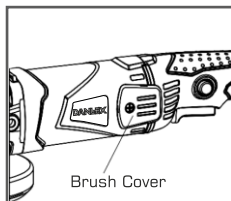

Fig8
2. Both carbon brushes should be replace at the same time. Use only DANLEX brushes provided (Fig8)